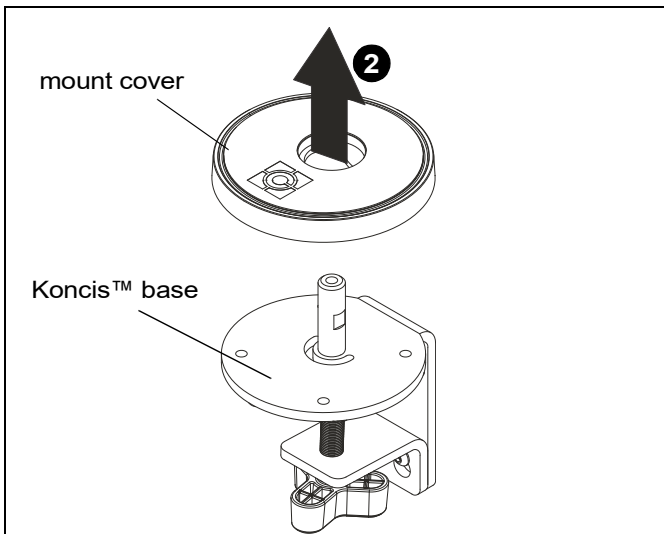

Figure 1
2. Remove cover from top of mount base. (See Figure 1)